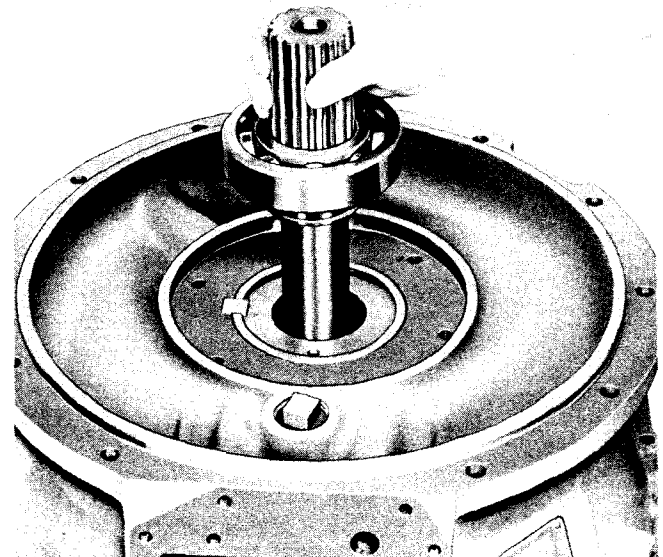

Fig VI-22. Removing (or installing) output shaft and bearing
(3) Remove the output shaft and bearing (fig. VI-22).
(1) Install a new bearing retainer gasket on the rear of the converter housing.
(2) Lower the output shaft and bearing into the ground sleeve (fig. VI-22).